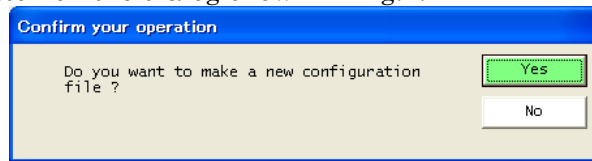

Fig.2 Confirm the operation dialog
- Click [Yes] button on the dialog shown in Fig.2.